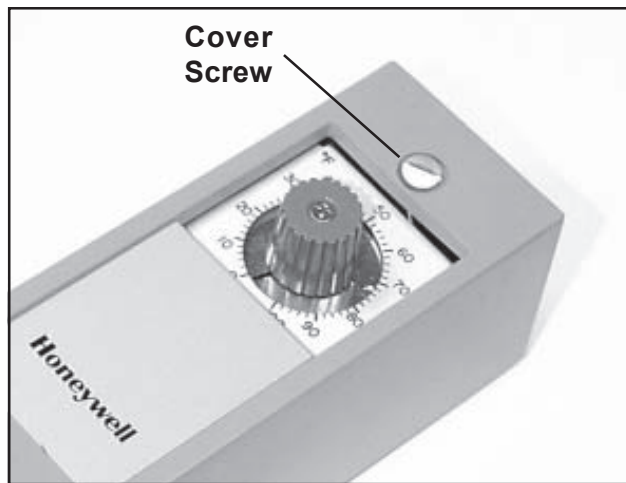

Figure 125. Cover Screw on Thermostat
8. With a small flat-blade screwdriver, remove the cover screw on the front of the thermostat (Figure 125).
5. Remove the cover screw and cover from the new thermostat (Figure 125).